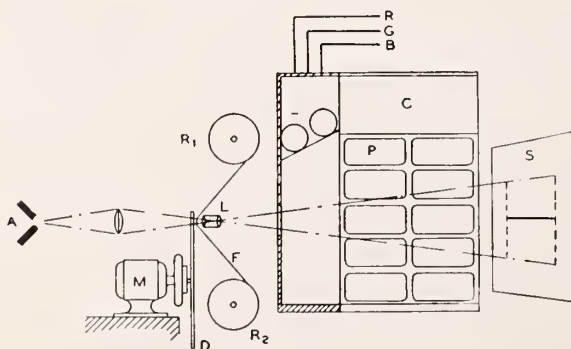
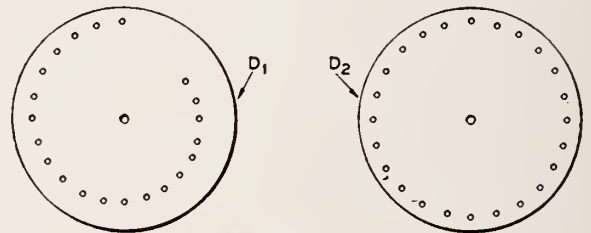
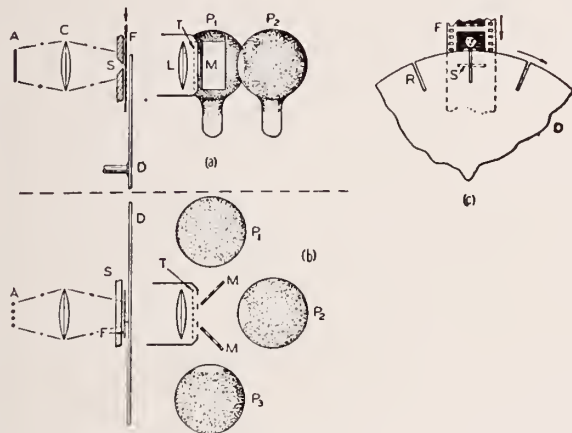
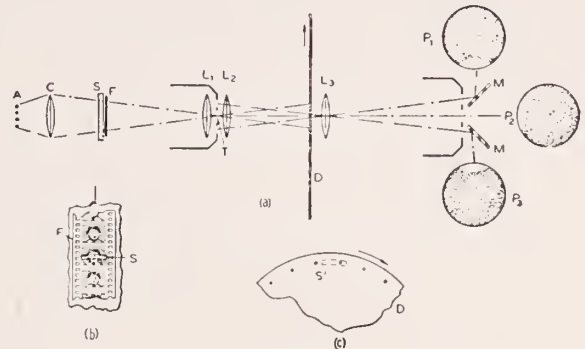

Fig. 1
Fig. 2
Fig. 3
Fig. 4
As an introduction to the method of telecinematography in color using ridged film, it is profitable to outline how the problem could be solved with film in which the colors are incorporated by dyes (e. g., Technicolor), and the three-color transmitting and receiving system recently developed in the Bell Laboratories.¹ This may be done most easily by considering Fig. 1, where the three-color transmitting apparatus is shown in section, with the addition of film handling means. The
If, with the apparatus as just described, the film stands still, with a picture frame exactly filling the field aperture in front of the disk, and the disk rotates at its normal speed for television, the screen S shows a projected image of the film, colored if the film is colored, and capable of being picked up by the photoelectric cells and transmitted, to be received like the image of a colored object by the single disk, three-lamp receiving apparatus, as ordinarily used for this purpose. When the film is moved in order to give a motion picture, there are two alternative forms of scanning disk available, depending on whether the motion of the film is intermittent, as in most cameras and projectors, or continuous. In the first case, a scanning disk must be used with a blank sector corresponding to the period occupied by the shift of the film between frames, as shown in D₁, Fig. 2, and a similar disk must be used at the
receiving end also. The use of intermittent exposures is, however, not only inefficient, because of the waste of line-time during the blank period, but is quite unnecessary when the image is analyzed by successive passages of a scanning aperture across the field. Instead of a disk provided with a spiral of holes it is simpler and better to use a disk with the scanning holes arranged in a circle, as shown at D₂, Fig. 2, and to give the film a uniform and continuous motion along the vertical diameter of the disk. When this is done the screen S shows merely a horizontal strip of light (indicated in Fig. 1 by the solid line) but the usual spirally-perforated disk at the receiving end spreads this out into a complete picture.
The method of using Kodacolor film may be most comprehensively described by saying that the film is to be projected as though for display upon a screen, but that the three beams of light issuing from the projection lens are directed each into a separate photoelectric cell for television transmission. With the details of the apparatus shown in Fig. 1 in mind, the Kodacolor film arrangement is readily grasped from Fig. 3, where the upper view (a) shows the elevation, the middle view (b) the plan, and (c) shows a detail of the scanning disk and film. Starting with the light source A, the light is condensed by the condenser system C on the film F which moves continuously past the slot S and directly behind the disk D. The disk is shown as provided with radial slots R, these together with the fixed slot S forming the scanning holes. After passing through the film and disk the light is projected as if to a screen by the lens L, in front of which is placed, in the regular projector, the set of red, green, and blue filters T. For our purpose both the screen and the filters are dispensed with. After passing through the lens, the light is diverted into three photoelectric cells, P₁, P₂, and P₃, by the mirrors M. These cells are all similar, and need not be color-sensitive. The filters are omitted as obviously unnecessary—color is not needed until the signals are received and recombined at the receiving disk where the same apparatus is used as for the reception of signals from original colored projects.
The arrangement of apparatus shown in Fig. 3 calls for the slot, film, and disk being practically in contact. This condition, which must be met if color fringes are to be avoided, is likely to offer some difficulty, since both are moving at high speed. An alternative arrangement, by which the disk and film are separated, is shown in Fig. 4. Here the symbols are as in Fig. 3, and the apparatus is the same from the lamp A to the film F. The disk is, however, removed to a new position beyond the projection lens L₁, which is supplemented by a short-focus lens L₂ so that an image of the film F, where it lies over slot S, is projected onto the disk. A third lens L₃, close to the disk, images the three apertures T onto mirrors M and photoelectric cells P as before. By this means the film image may be placed accurately in the plane of the disk and color fringes
- ³ The disk and film could be similarly separated in the form of apparatus shown in Fig. 1 although the necessity is not so apparent.